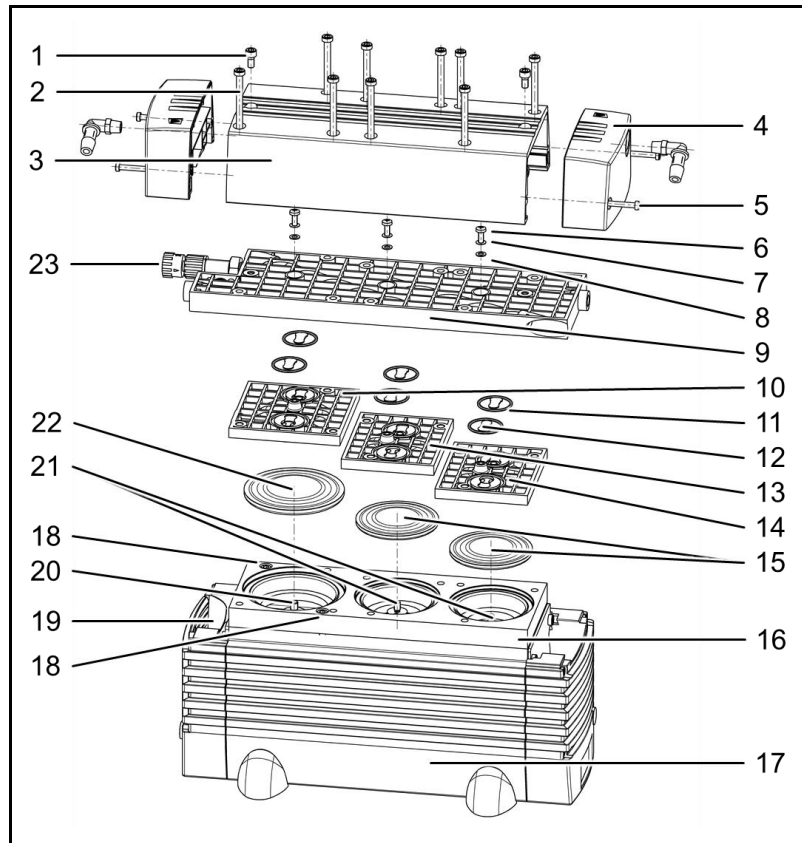

Fig. 16: Pump (exploded drawing, symbolic)
2. Undo the two screws (Fig. 16/1) and nine screws (2) of the head cover (3).
3. Undo two screws (6) each, and remove both covers (5) at head cover (4).
4. Lift the head cover (3) off the pump housing (17).
5. Lift off head plate (9) with intermediate plates (10), (13) and (14).